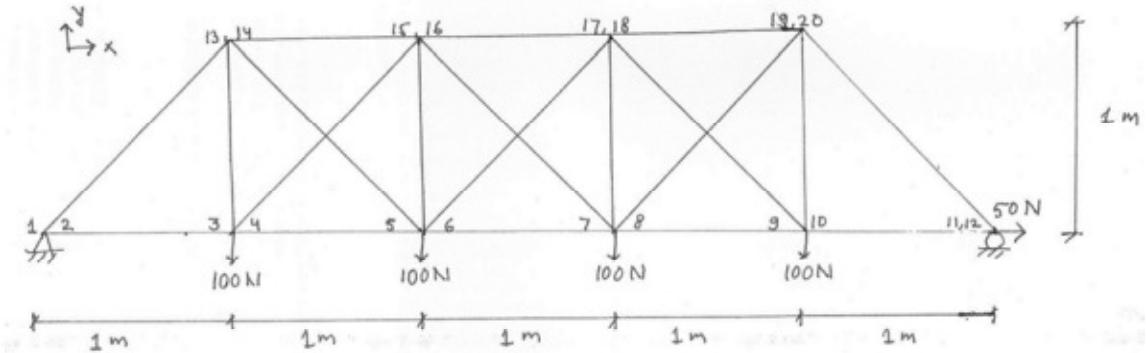

Figure 4
4. (a) Write a MATLAB code to find the displacements at all nodes and the axial forces in all members of the truss shown in Figure 4, modeled using 2D – truss elements. Present your results in a tabulated format. Given: $E = 2 \times 10^7$ N/m², $A = 2.5 \times 10^{-3}$ m², for all members.
(b) For a truss made of a different material, but with the same geometry, loading and boundary conditions as in Figure 4, the measured nodal displacements corresponding to the different degrees of freedom (DoFs) shown in Figure 4 are as follows: